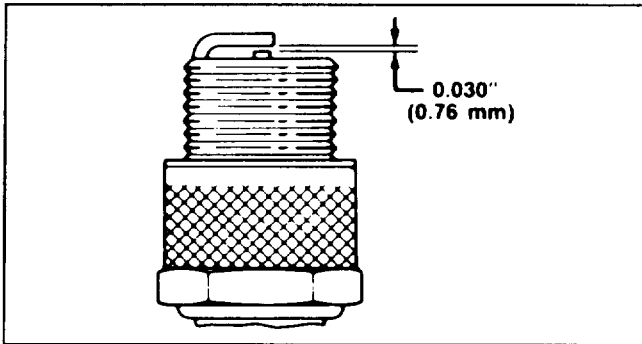

Figure 35
3. Set air gap between electrodes of new spark plug at 0.030" (0.76 mm) (Fig. 35). Next, install spark plug in cylinder head. Tighten plug to 15 ft-lb (20.4 N·m). If torque wrench is not used, tighten plug firmly.